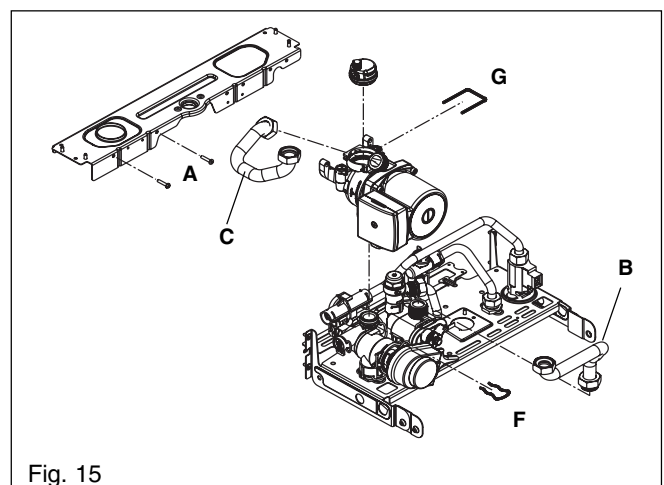

Fig. 15
### 6.5 PUMP ASSEMBLY fig. 15
- refer to fig. 15, disconnect and remove items A, B & C
**6.7 AUTOMATIC AIR RELEASE VALVE fig. 15 (AAV)**